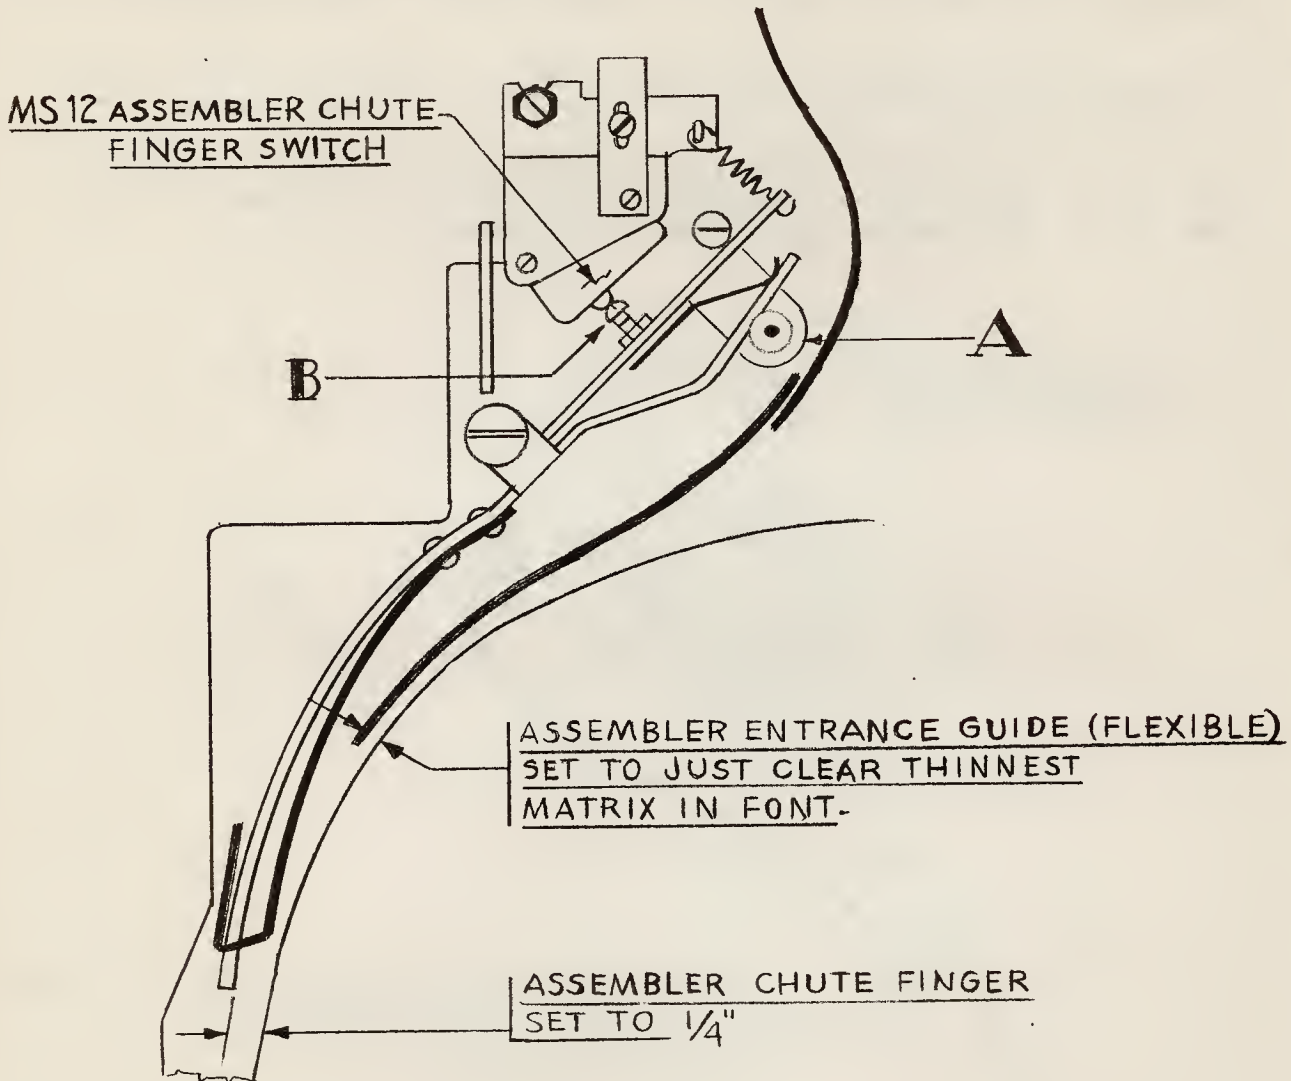

FIG. 6A
* (FF) Assembler Chute Finger (Universal) (Fig. 6A)